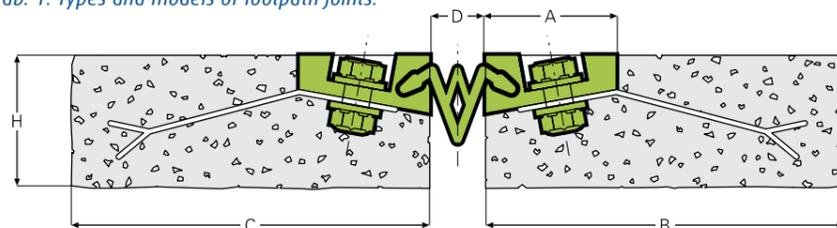

Fig. 1: Footpath joint type T0.
- pavement joints - *table 1 and figure 1*;